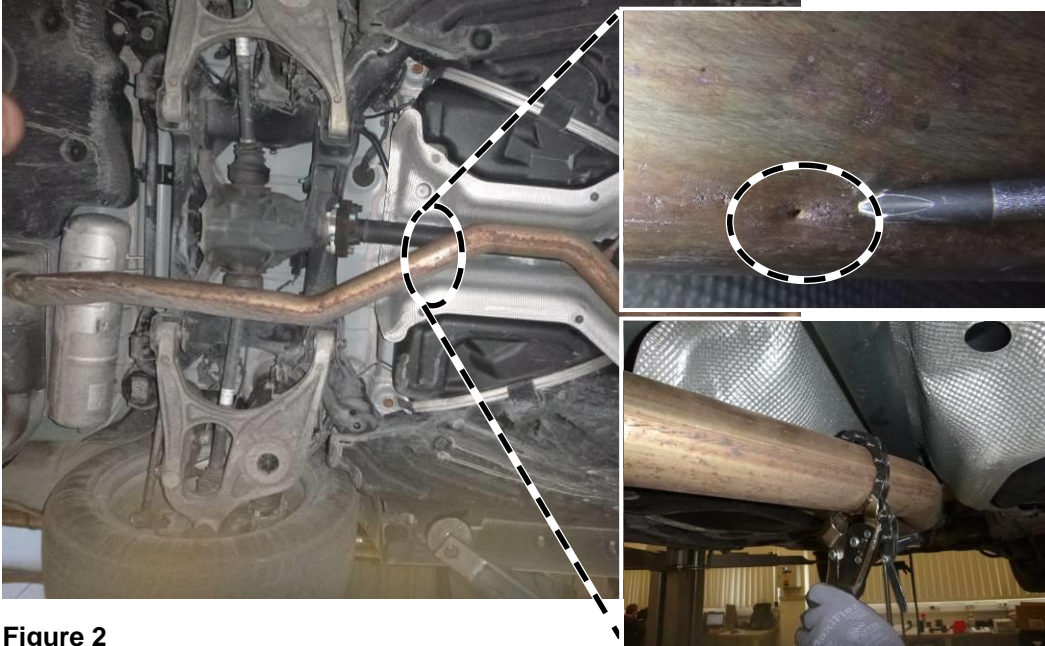

Figure 2
3. Using a chain pipe cutter, cut off the exhaust system tailpipe at a right angle to the muffler at the separating point that is marked by the stamped-in notch (**figure 2**).